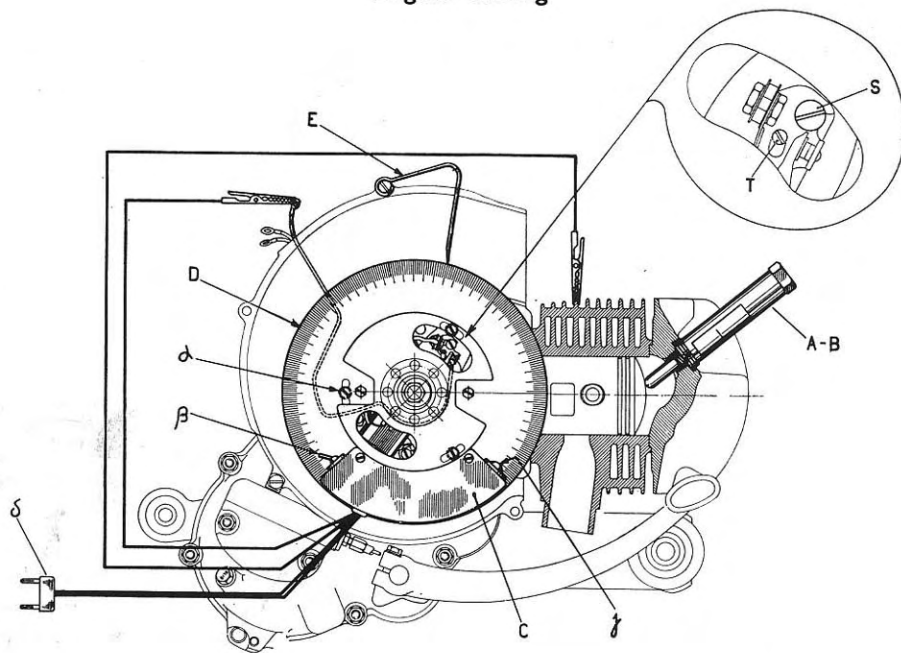

Fig. 72
- (1) Slacken the screws "a" (Fig. 72) securing the stator to crankcase.
- (2) Mount the indexing fixt. "A" (tool T.0023853) using stem T.0026362 in place of the sparking plug and fix the graduated disc "D" (drg. n. T.0023465) directly to the crankshaft with the bracket T.0023465/2, after removing the rotor of the flywheel magneto and after having applied the apparatus "C" (tool T.0027533, which functions with a.c. at 220 V). The indexing fixture "A" should be assembled in conjunction to the cursor "B" (drg. T.0023853).
- (3) Secure the fixed steel wire index "E" (see figure) to one of the crankcase bolts.
- (4) Rotate the disc clockwise by hand, so that the piston nears the T.D.C.: at this point align the mark on the cursor of the indexing fixture "A" with that on the sleeve and mark the position indicated by the fixed pointer.
- (5) Continue rotating the disc clockwise so that the piston proceeds on its upwards stroke, passes the T.D.C. and returns to the original position; i.e., when the mark on the indexing device are once more aligned. Note the new reading on the disc relative to the mark previously signed: the T.D.C. corresponds to the half way mark between the two readings previously mentioned.
- (6) **From the graduation corresponding to the T.D.C. mark of the spark advance, i.e., 26° BTDC $\pm 1^{\circ}$; now rotate the disc a anticlockwise so as to bring the piston in the position corresponding to said spark advance angle.**
- (7) Loosen the screw "S" securing the contact breaker and turn the eccentric "T" to shift the contact breaker so that it touches the cam: the moment when the contact breaker points start to open can be noted when the indicator on the apparatus T.0027533 lights up (the switch " β " should be in the on position) Tighten screw "S".
- (8) With a feeler gauge check the maximum opening of the contact breaker points: which should be $0.019" \div 0.5$ mm. Tighten the screws securing stator. If after having carried out the operations indicated on the previous point **it is not possible to obtain that the opening of the contact breaker points is $0.019" \div 0.5$ mm**, it is usually advisable to **replace the contact breaker and repeat the timing operations.**
- N.B.** For checking timing the apparatus T.0023278 can be used; it is similar to the T.0027533 illustrated in Fig. 72 but functions with a d.c. supply at 4 V.